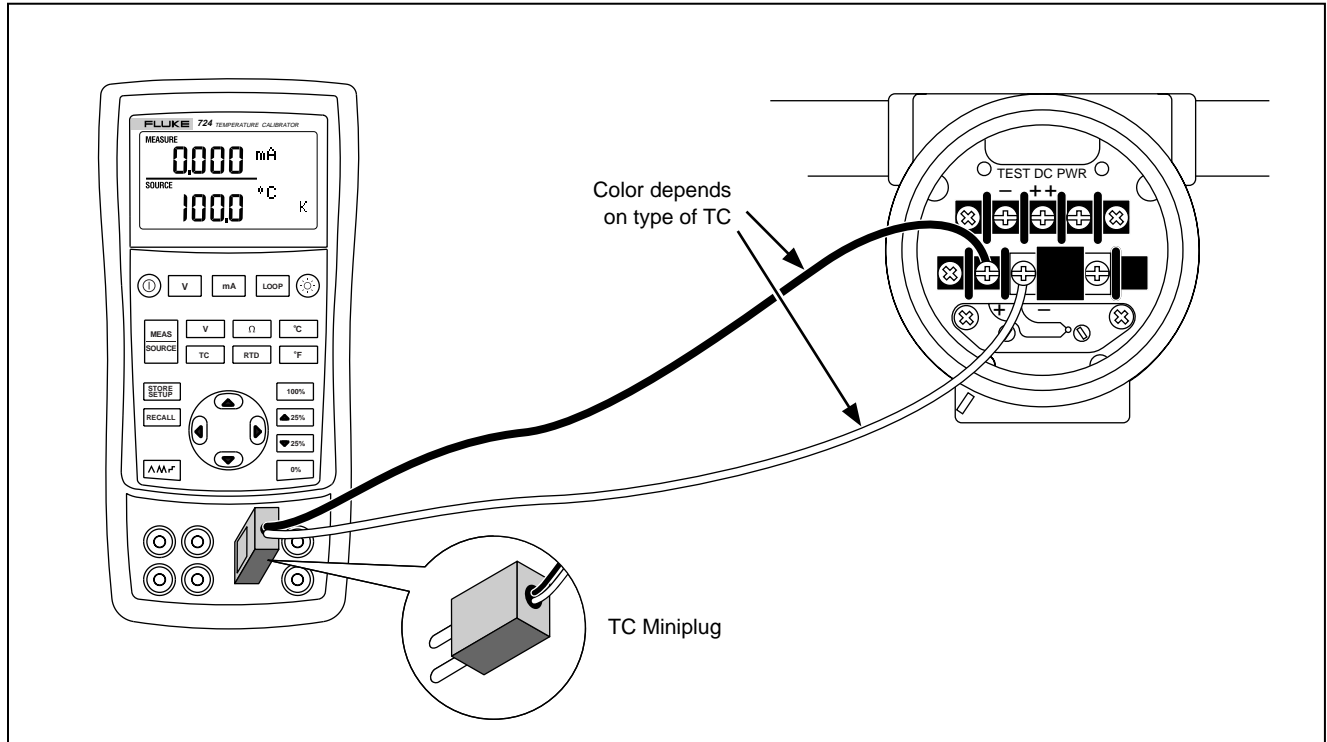

Figure 12. Connections for Simulating a Thermocouple
One pin is wider than the other. Do not try to force a miniplug in the wrong polarization. Figure 12 shows this connection.
1. Attach the thermocouple leads to the appropriate TC miniplug, then to the TC input/output as shown in Figure 12.